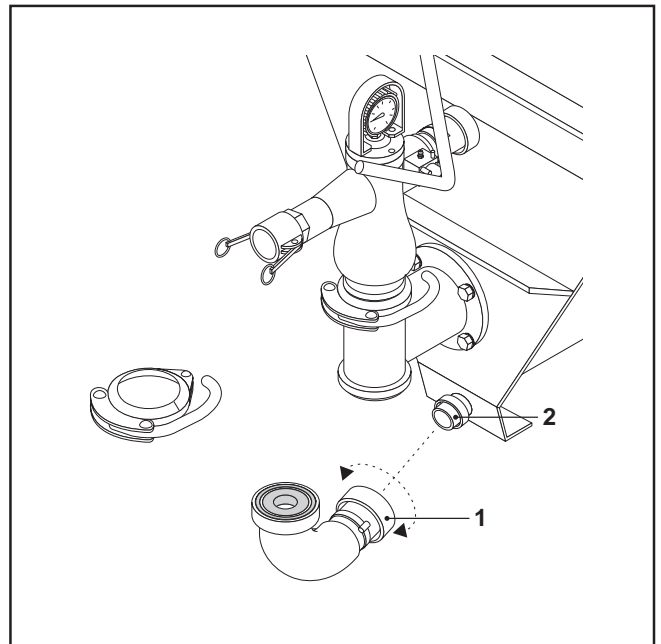

FIG.33
- Re-mount the intake collector and the flow valve body, checking that the sealing ring (FIG.33-REF.1) adheres perfectly to the profile (FIG.33-REF.2). This confers perfect sealing between the two elements. The contact surfaces must be perfectly clean.
- Remove the water remaining inside the hopper by opening the lower joint in the pump unit and sliding the intake collector out from the sealing ring (FIG.33-REF.1).